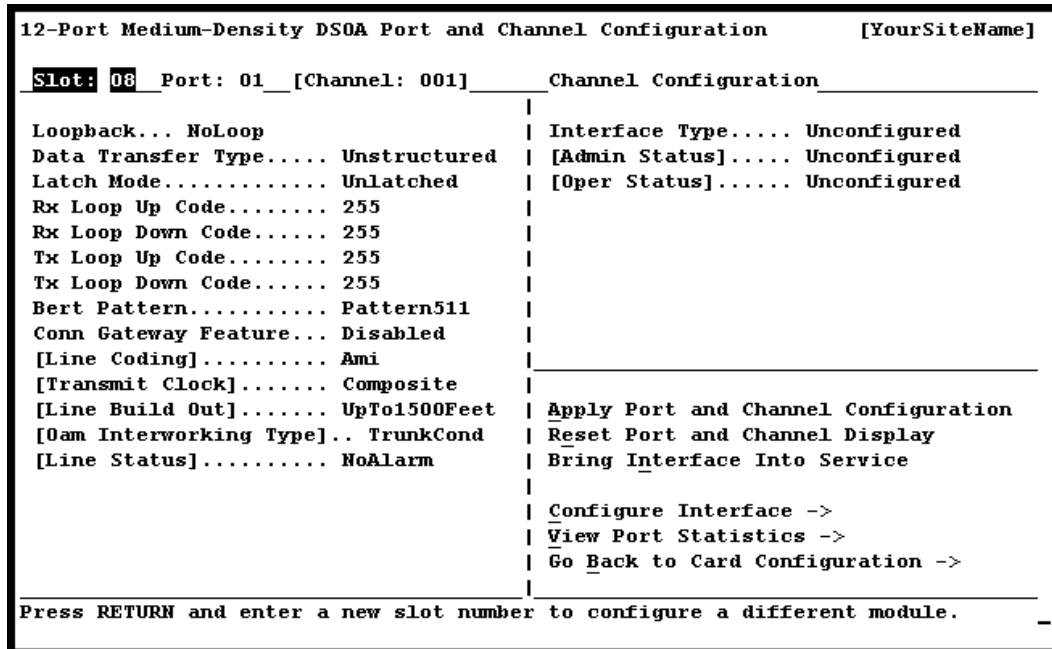
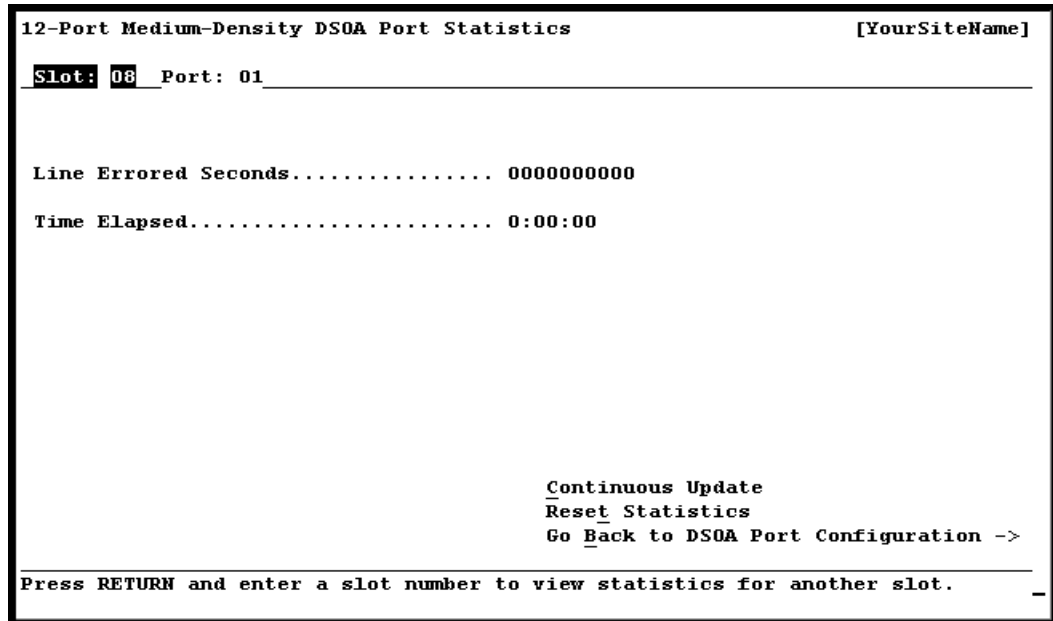

Figure 3-6. 12-Port Medium-Density DS0A Port and Channel Configuration Window
Figure 3-7. 12-Port Medium-Density DS0A Port Statistics Window
- 4 Select the line with the port you want to configure. The 12-Port Medium-Density DS0A Port and Channel Configuration window is displayed (see Figure 3-6).
To view statistics for a port, from the 12-Port Medium-Density DS0A Port and Channel Configuration window (Figure 3-6), select the **View Port Statistics** command. The 12-Port Medium-Density DS0A Port Statistics window (see Figure 3-7) is displayed.